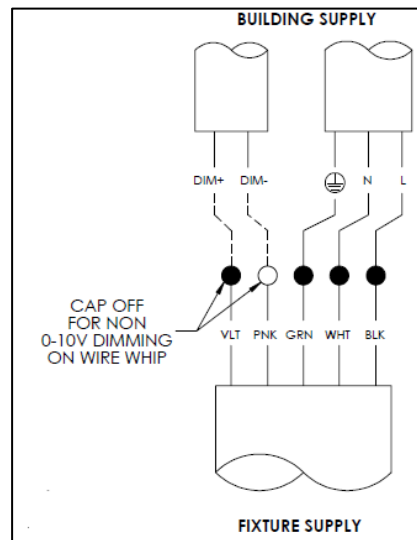

FIG. 10 – WIRE CONNECTION INFORMATION BETWEEN BUILDING SUPPLY AND FIXTURE
4. Feed building supply wires into the RECESSED HOUSING and make all wire connections in accordance with the NATIONAL ELECTRIC CODE and applicable LOCAL AND STATE CODES. See WIRE CONNECTION INFORMATION and WIRE DIAGRAM below for wire connections as shown in FIG.10 & 11.